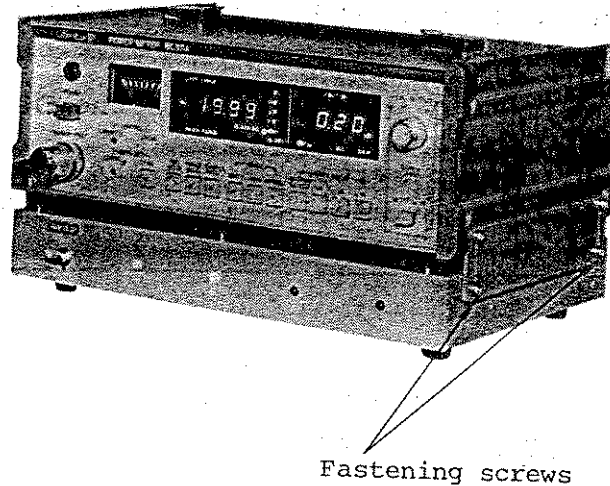

Fig. 4-2 Battery Pack Mounting
1. Set the AC power switch (14) to the OFF position.
2. Disconnect the AC power cord from the AC power receptacle (24).
3. Attach the MZ95A battery pack under the ML83A power meter as shown in Fig. 4-2. (Loosen the battery pack fastening screws at both sides of the battery pack, insert them through the tapped holes on the both sides of ML83A, and tighten them down.)